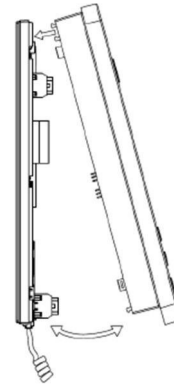

Fig. 3.
6. Assemble the two parts of the housing (Fig. 3).